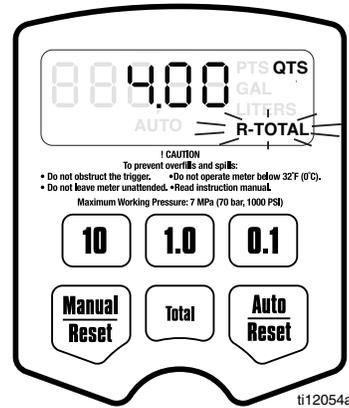

FIG. 23
3. There are five (5) Setup Menu screens available, stored in a preset order.
a. The first screen displayed is the Resettable Total Menu (FIG. 23, page 16). When the menu is displayed, R-TOTAL (G) will blink in the lower right corner on the screen.
### Resettable Total (FIG. 23)